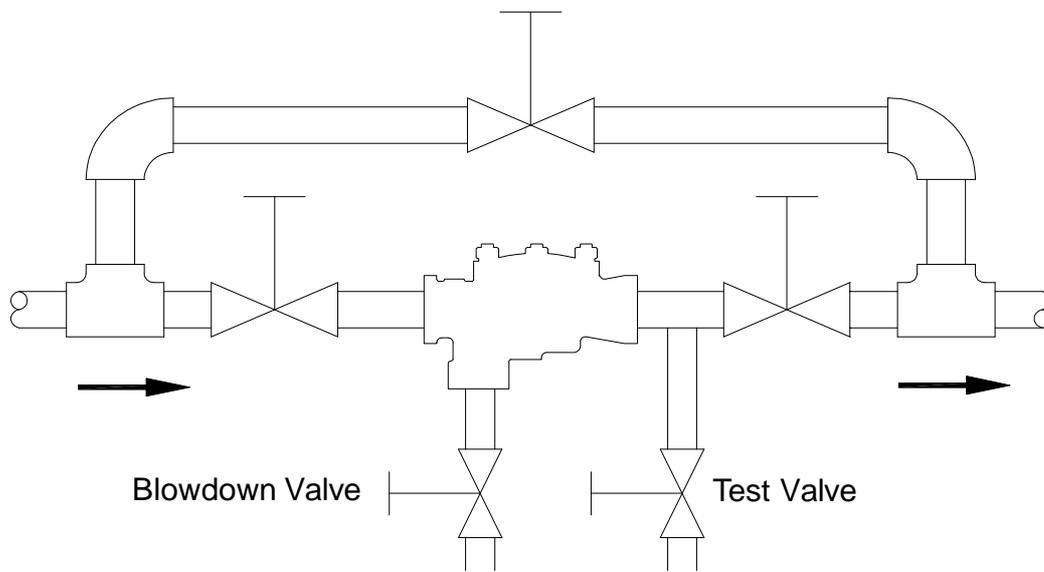

Fig. 4
i. For checking operation of the trap when installed in a closed return system a test valve can be fitted as shown as in fig 4. Alternatively the trap can be supplied with a thermometer fitted to the outlet connection, or a contact temperature recorder used to measure the temperature differential across the trap. Ultrasonic meters must be used with care if the trap is operating in a continuous discharge mode as the results indicated can be misleading.